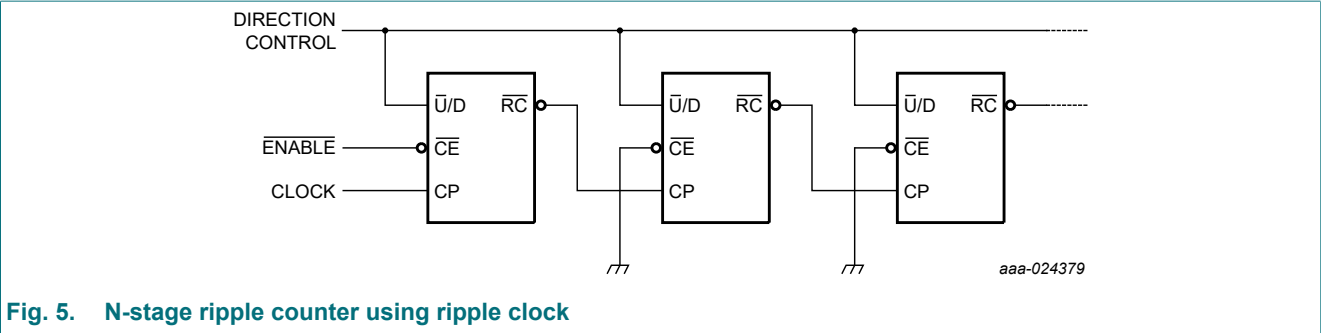
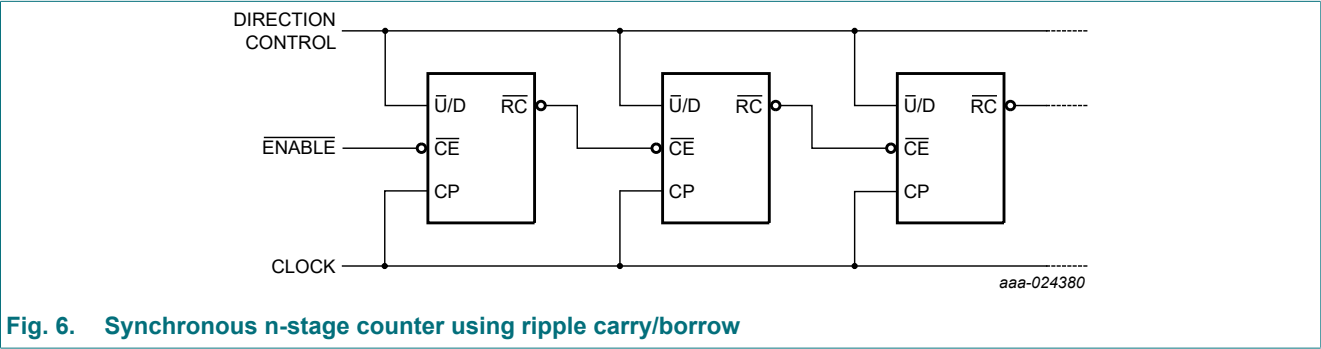

Fig. 5. N-stage ripple counter using ripple clock
Fig. 6. Synchronous n-stage counter using ripple carry/borrow
The 74HC191 is an asynchronously presetable 4-bit binary up/down counter. It contains four master/slave flip-flops with internal gating and steering logic to provide asynchronous preset and synchronous count-up and count-down operation. Asynchronous parallel load capability permits the counter to be preset to any desired value. Information present on the parallel data inputs (D0 to D3) is loaded into the counter and appears on the outputs when the parallel load ($\overline{PL}$) input is LOW. This operation overrides the counting function. Counting is inhibited by a HIGH level on the count enable ($\overline{CE}$) input. When $\overline{CE}$ is LOW internal state changes are initiated synchronously by the LOW-to-HIGH transition of the clock input. The up/down ($\overline{U/D}$) input signal determines the direction of counting as indicated in the function table. The $\overline{CE}$ input may go LOW when the clock is in either state, however, the LOW-to-HIGH $\overline{CE}$ transition must occur only when the clock is HIGH. Also, the $\overline{U/D}$ input should be changed only when either $\overline{CE}$ or CP is HIGH. Overflow/underflow indications are provided by two types of outputs, the terminal count (TC) and ripple clock ($\overline{RC}$). The TC output is normally LOW and goes HIGH when a circuit reaches zero in the count-down mode or reaches '15' in the count-up-mode. The TC output will remain HIGH until a state change occurs, either by counting or presetting, or until $\overline{U/D}$ is changed. Do not use the TC output as a clock signal because it is subject to decoding spikes. The TC signal is used internally to enable the $\overline{RC}$ output. When TC is HIGH and $\overline{CE}$ is LOW, the $\overline{RC}$ output follows the clock pulse (CP). This feature simplifies the design of multistage counters as shown in Fig. 5 and Fig. 6. In Fig. 5, each $\overline{RC}$ output is used as the clock input to the next higher stage. It is only necessary to inhibit the first stage to prevent counting in all stages, since a HIGH on $\overline{CE}$ inhibits the $\overline{RC}$ output pulse. The timing skew between state changes in the first and last stages is represented by the cumulative delay of the clock as it ripples through the preceding stages. This can be a disadvantage of this configuration in some applications. Fig. 6 shows a method of causing state changes to occur simultaneously in all stages. The $\overline{RC}$ outputs propagate the carry/borrow signals in ripple fashion and all clock inputs are driven in parallel. In this configuration the duration of the clock LOW state must be long enough to allow the negative-going edge of the carry/borrow signal to ripple through to the last stage before the clock goes HIGH. Since the $\overline{RC}$ output of any package goes HIGH shortly after its CP input goes HIGH there is no such restriction on the HIGH-state duration of the clock. In Fig. 7, the configuration shown avoids ripple delays and their associated restrictions. Combining the TC signals from all the preceding stages forms the $\overline{CE}$ input for a given stage. An enable must be included in each carry gate in order to inhibit counting. The TC output of a given stage is not affected by its own $\overline{CE}$ signal therefore the simple inhibit scheme of Fig. 5 and Fig. 6 does not apply. Inputs include clamp diodes. This enables the use of current limiting resistors to interface inputs to voltages in excess of V_{CC} .